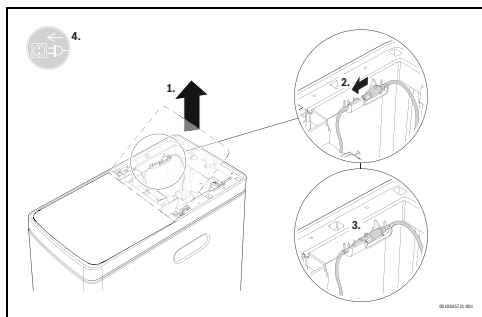

Fig. 7
1. Connect the terminal of the power adapter to the power connector of the control valve. Insert it into the limit slot in the middle frame and then close the top cover (→Fig. 7).